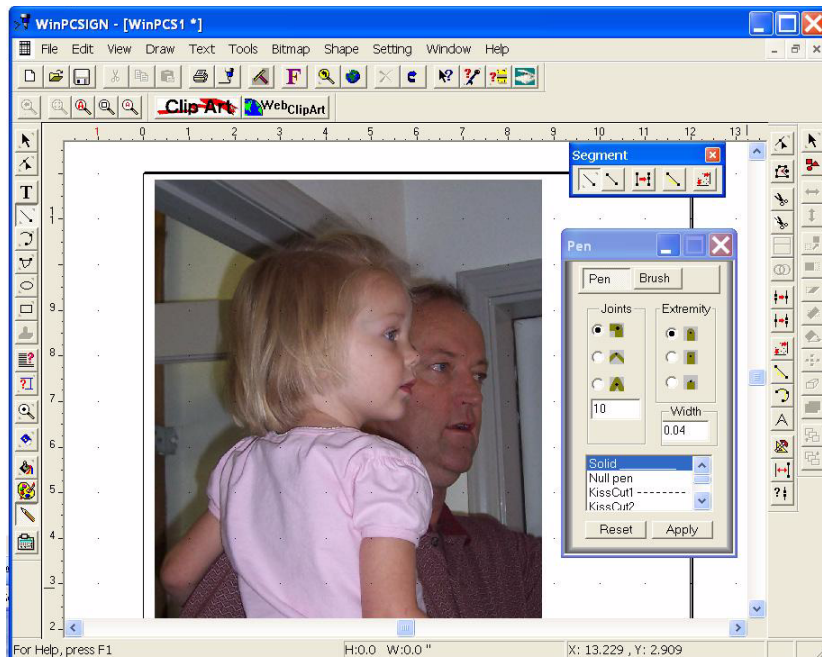

Figure 125
- 1 Double click on the **Segment from Path** tool to open the **Segment** toolbar. See figure 125.
- 3 Click the **Pen and Brush** tool to open its window. See figure 125.